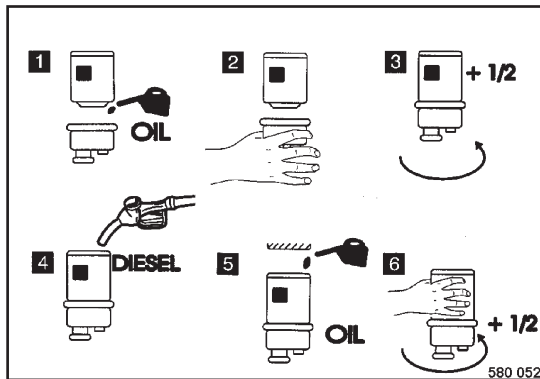

Fig. 118
- Loosen and unscrew the fuel filter cartridge (Fig. 118) using an appropriate filter wrench.